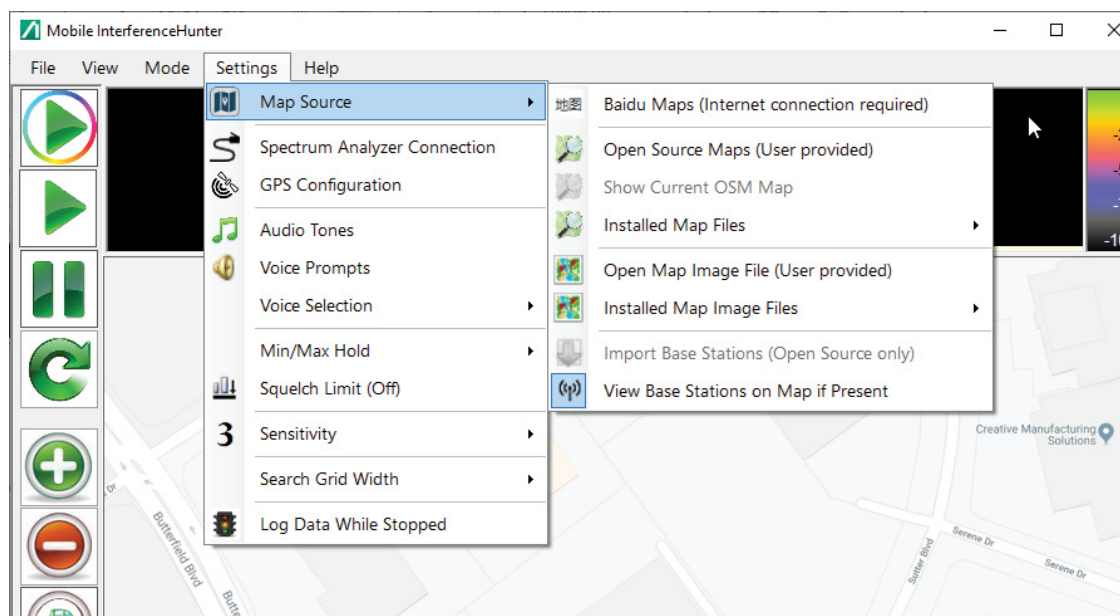

**Figure 2-2.** Map Source
3. Click: Settings > Map Source > Open Source Maps (User provided) (see Figure 2-2)